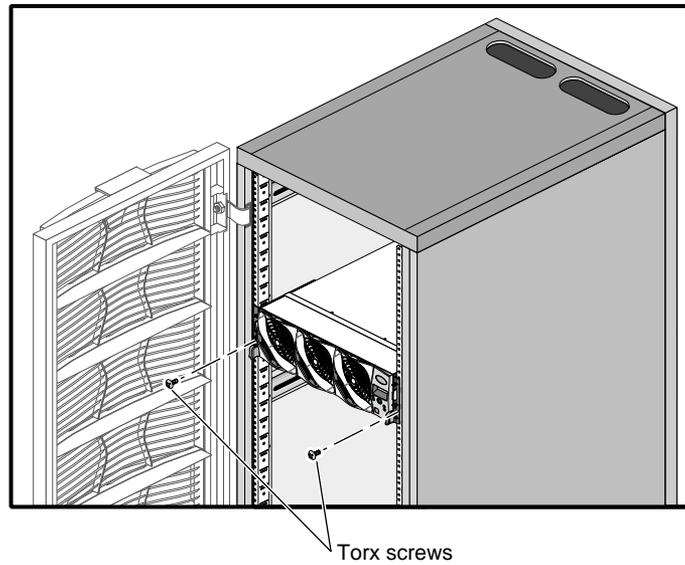

Figure 1-7 Module Installation
4. Install the two T25 Torx screws that secure the module to the front of the rack. Refer to Figure 1-7.